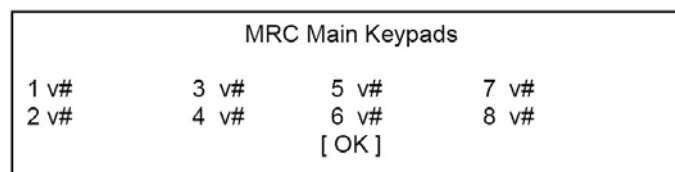

FIG. 53 MRC Main Keypads
- Select **Main Keypads** to view the software version of the Main Keypads. The following screen is displayed (FIG. 53):